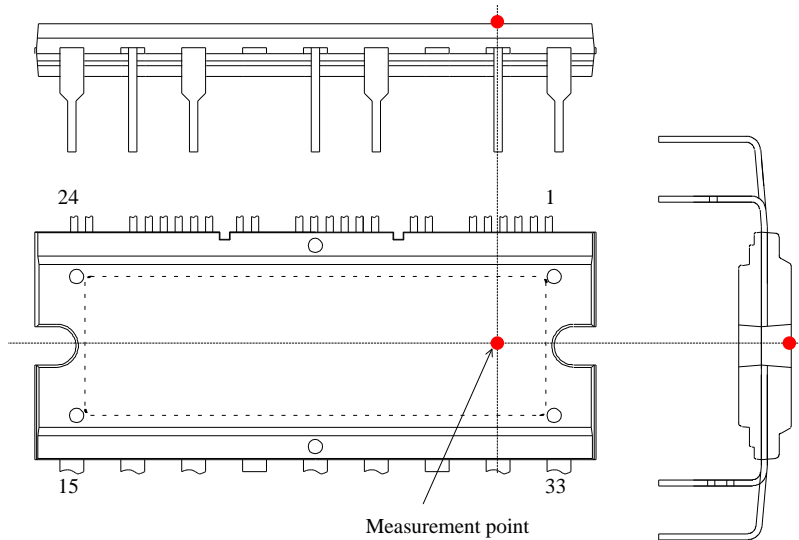

Figure 3-1. Case temperature measurement point
- ⁽¹⁾ Refers to a case temperature at the measurement point described in Figure 3-1, below.